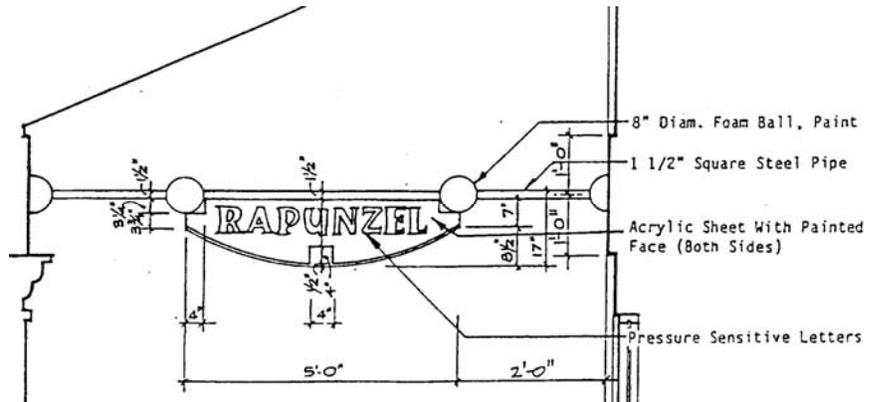

Figure 5 – Bracketed Undercanopy Sign
1. Not exceed four (5) square feet in area
2. Conform to guidelines indicated on Figure 5 & 6.
3. Maintains a minimum of eight (8) feet clearance between the bottom of the sign and the walkway below.